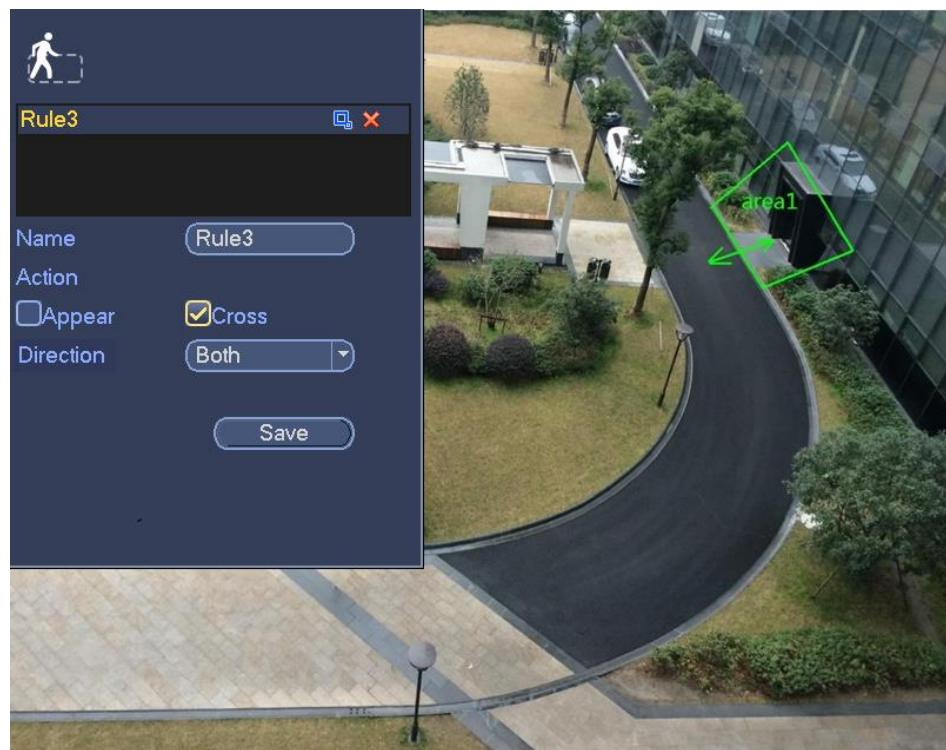

Figure 4-149
1. Click draw button to draw the zone. See Figure 4-149.